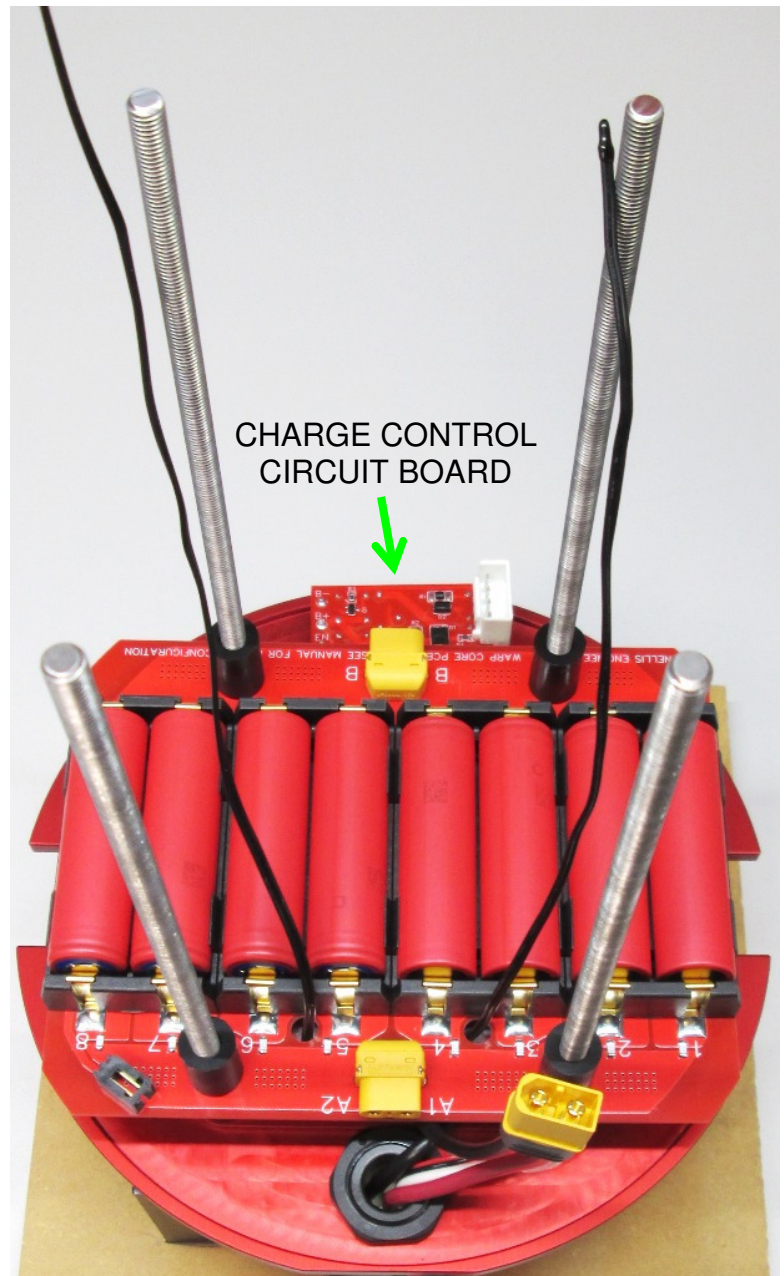

Figure 21
12. The layers are numbered 1 through 9 with a label next to the small black 2 pin connector. Ensure 4 black plastic 3/4" (19mm) tall spacers are installed on the threaded rods contacting the red aluminum mounting plate and then install layer #1 onto the threaded rod with the **B - B** printed on the circuit board towards the Charge Control Circuit Board. Stop about half way down and feed the temperature sensors through the holes as shown in Figure 21 before lowering it all the way to the bottom.